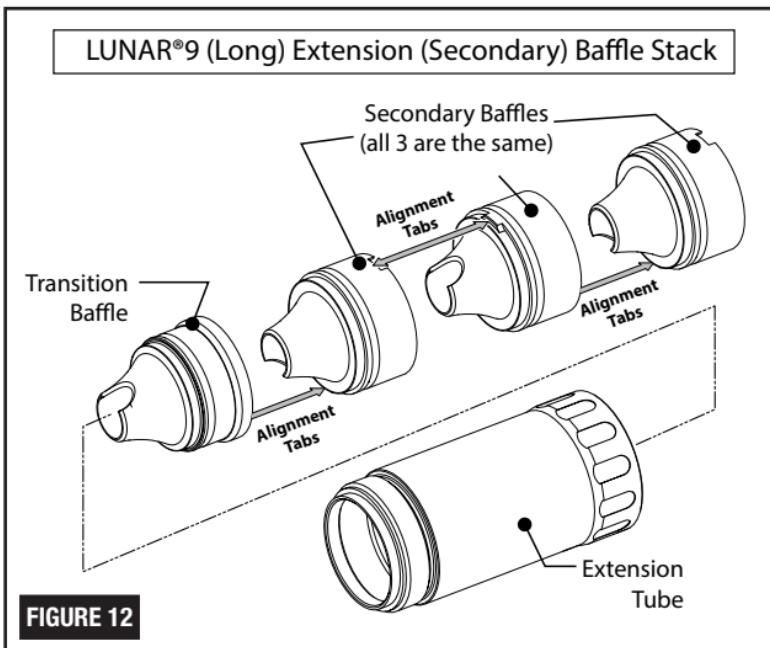

FIGURE 12
3. Slide the Extension (secondary) baffle stack into the Extension tube as shown (FIGURE 12). Note alignment tabs.